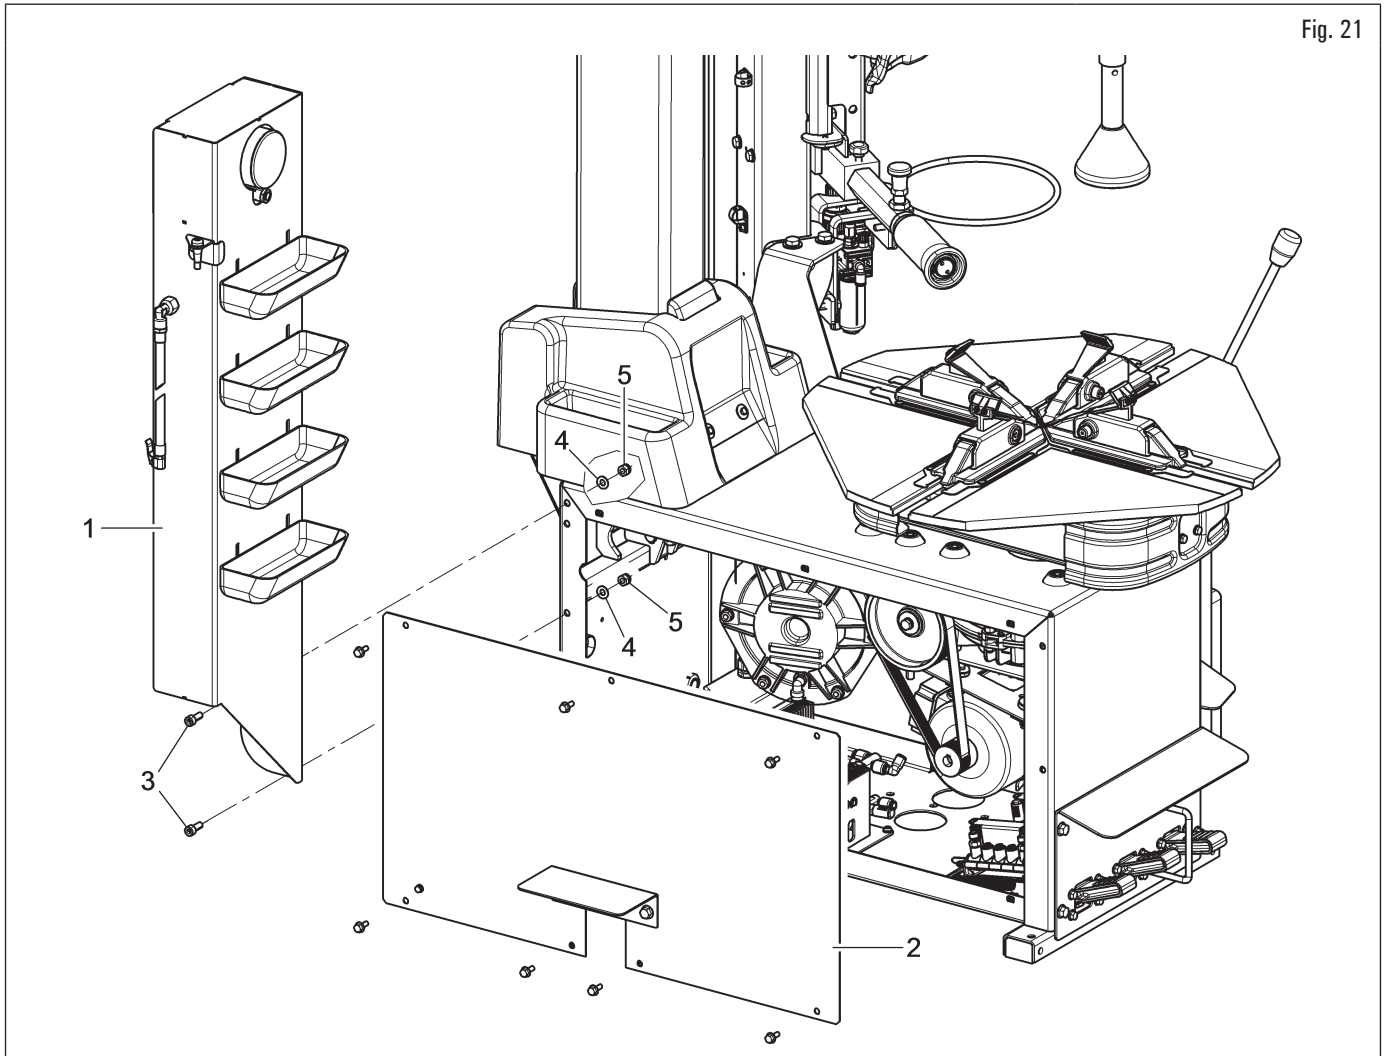

Fig. 21
To fit the side bowl (Fig. 21 ref. 1) to the equipment, remove the lateral guard (Fig. 21 ref. 2) and use the bolts (Fig. 21 ref. 3), the washers (Fig. 21 ref. 4) and the nuts (Fig. 21 ref. 5) supplied, as shown in Fig. 21. When finished, reassemble the lateral guard.